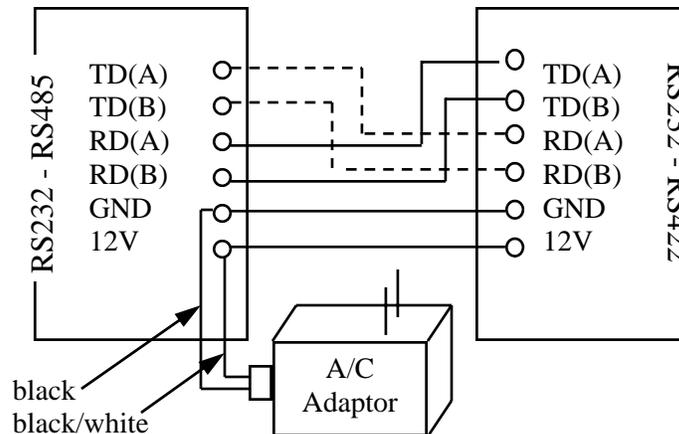

Fig. 1: Component Wiring Diagram
The twisted-pair cable should be connected to the two converters and the A/C adaptor as shown in figure 1. Care must be taken to assure that the wire connected to a Transmit Data terminal [TD(A) or TD(B)] of one converter is connected to the corresponding Receive Data terminal [RD(A) or RD(B)] of the other converter. The ground (GRD) and voltage (12V) terminals of one converter should be connected to the corresponding terminal of the other. The black wire from the A/C adaptor is connected to the GRD terminal of the RS232-RS485 converter. The black/white wire connects to the 12V terminal.